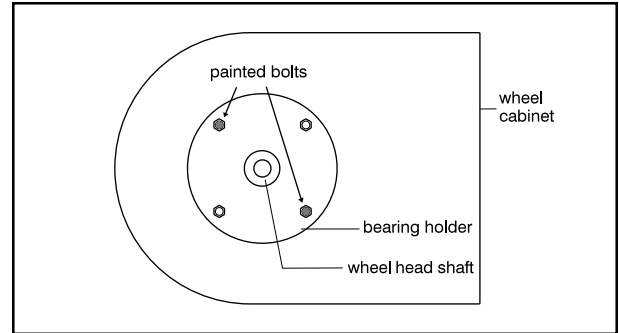

Figure 1
5. Using the spanner wrench (provided), remove the 2 painted bolts on bearing holder (figure 1).
5. Loosen all bolts in bearing holder (see figure 1 on page 2); belt tension will automatically spring into adjustment.